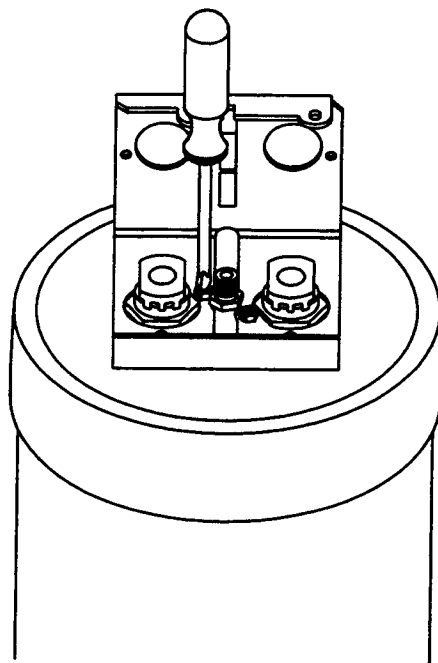

FIG. 7
- Place the tank bracket on the tank as shown and secure it with the two screws (Fig. 7).